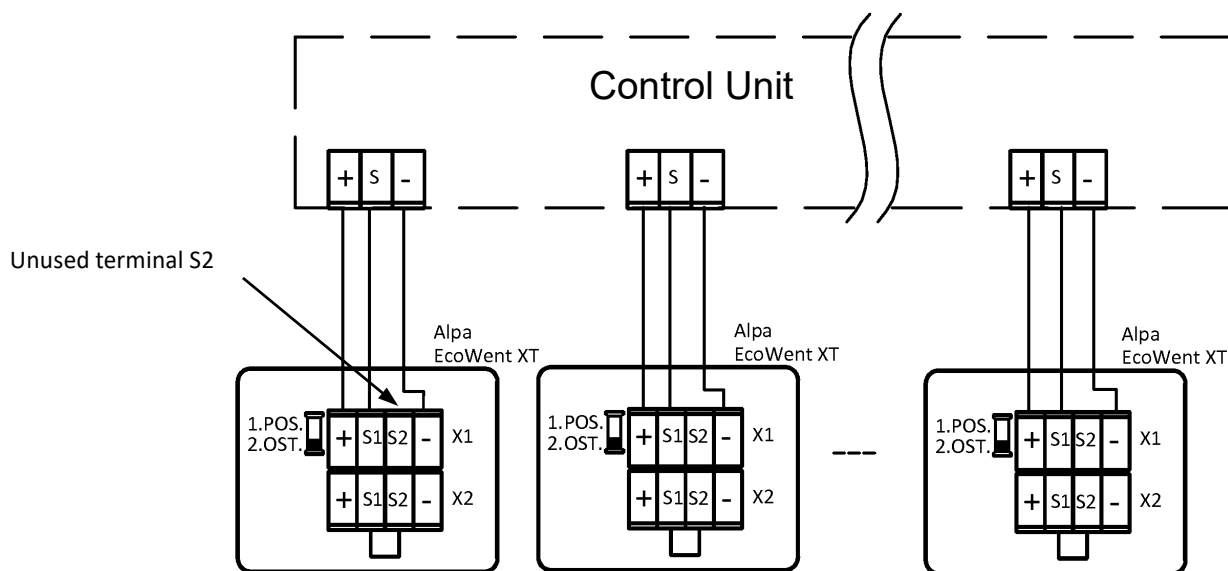

Figure 11: Connection of the Alpa EcoWent XT Gas Detector into the star system
-  Connect the output of the first detector to the cable going into the control unit. The configuration switch in the detector should be in position 2 (last detector) – see Figure 11.